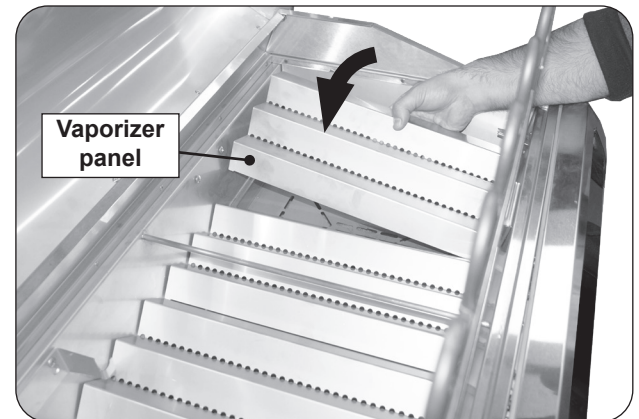

Fig. 29-2 Install vaporizer panels
3. With the support bracket removed, carefully place the vaporizer panels down into the electric grill as shown in Fig. 29-2.